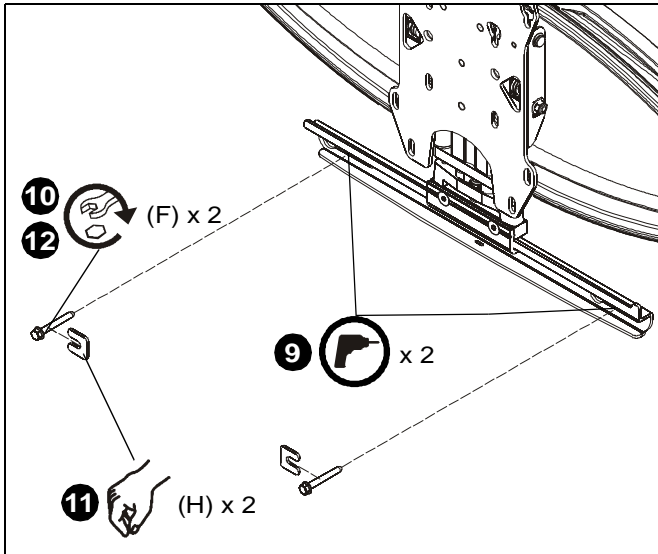

Figure 4
8. Center main assembly (M) over two studs.
9. Drill two 13/64" holes in center of wood studs at lower mounting holes. (See Figure 4)
10. Loosely install two 5/16 x 2 1/2" flange head lag screws (F). (See Figure 4)
11. Place two installation spacers over two flange head lag screws. (See Figure 4)
12. Tighten two screws to secure main assembly (M) to wall. (See Figure 4)